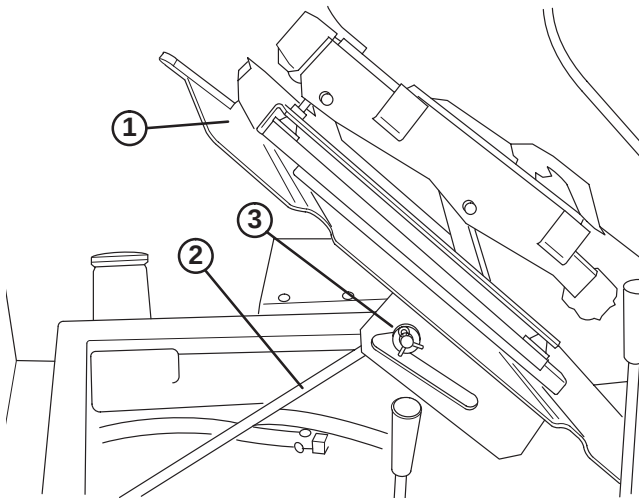

Figure 5
- 4. Hold mounting plate in upright position with support rod (Fig. 5).
- 3. Hold mounting plate in upright position with support rod (Fig. 5).